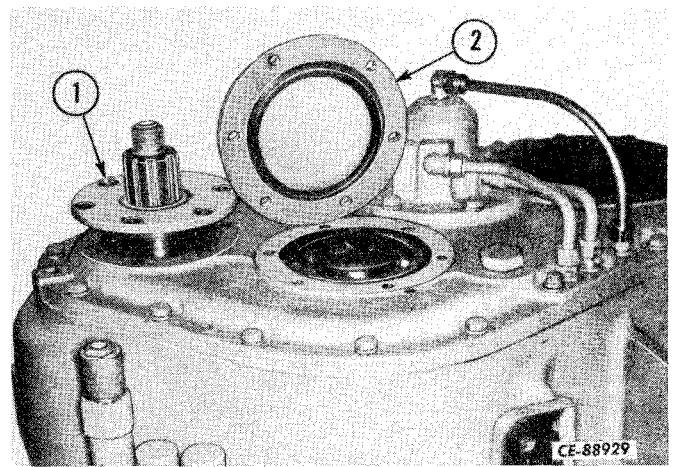

Figure 4-78
Install the input shaft cap (1, Fig. 4-78) and the countershaft cap (2). Install cap screws that secure caps to cover. Tighten cap screws to recommended torque (refer to "SPECIAL TORQUES").